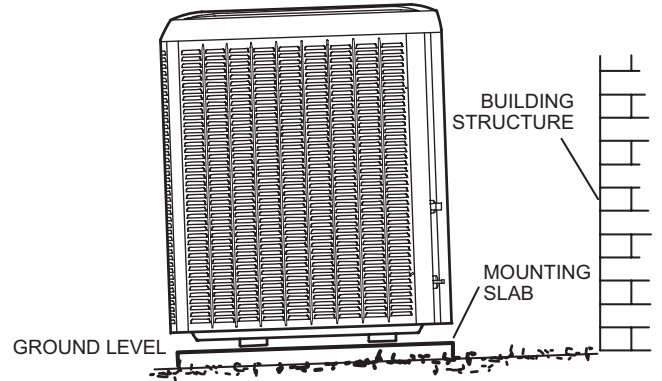

FIGURE 4
- When possible, do not install the unit directly outside a window. Glass has a very high level of sound transmission. For proper placement of unit in relation to a window see the provided illustration in FIGURE 4.
The slab should have a slope tolerance as described in FIGURE 4.